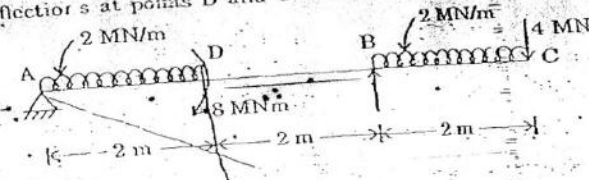

Fig. 2
8. (a) Find the deflections at points D and C of the beam loaded as shown in Fig. 2. 15